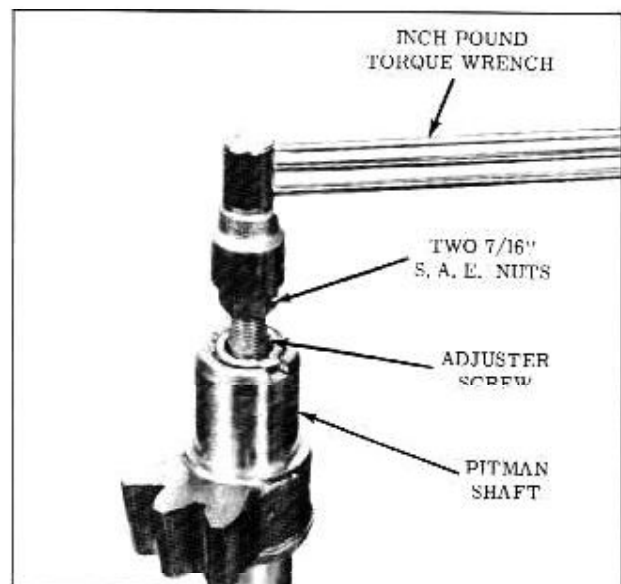

Fig. 4-89 Checking Pitman Shaft
2. Using a 5/8" socket and an inch-pound torque wrench, measure the torque required to turn the adjusting screw. (Fig. 4-89) Torque reading should be 1 to 15 inch pounds.